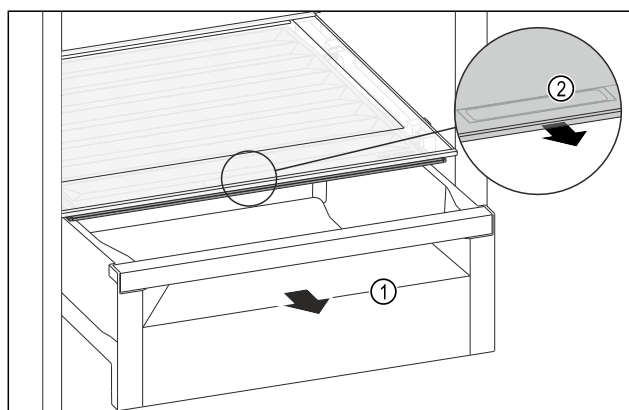

Fig. 145
- Pull out the drawer Fig. 145 (1).
- ▶ Grasp the recessed grip *Fig. 145 (2)* on the compartment lid and pull the compartment lid forwards at the same time.